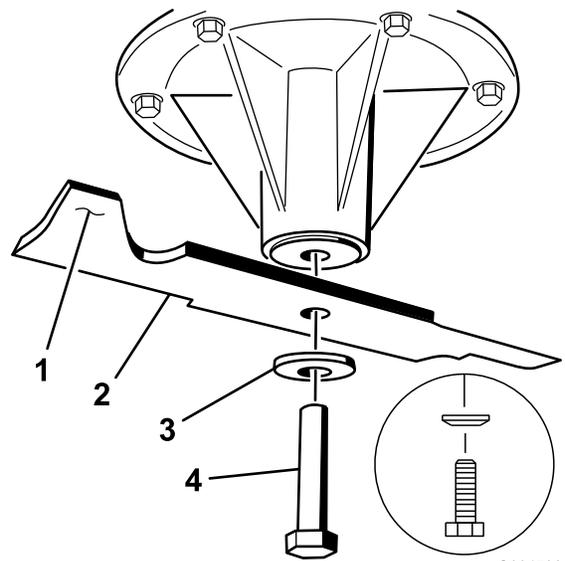

Figure 97
Note: If the blade stays in a horizontal position, the blade is balanced and can be used. If the blade is not balanced, file some metal off the end of the sail area only (Figure 97). Repeat this procedure until the blade is balanced.
1. Install the blade onto the spindle shaft (Figure 97).
Note: Install the spring disk cone toward the bolt head (Figure 97). Torque the blade bolt to 115 to 150 N-m (85 to 110 ft-lb).